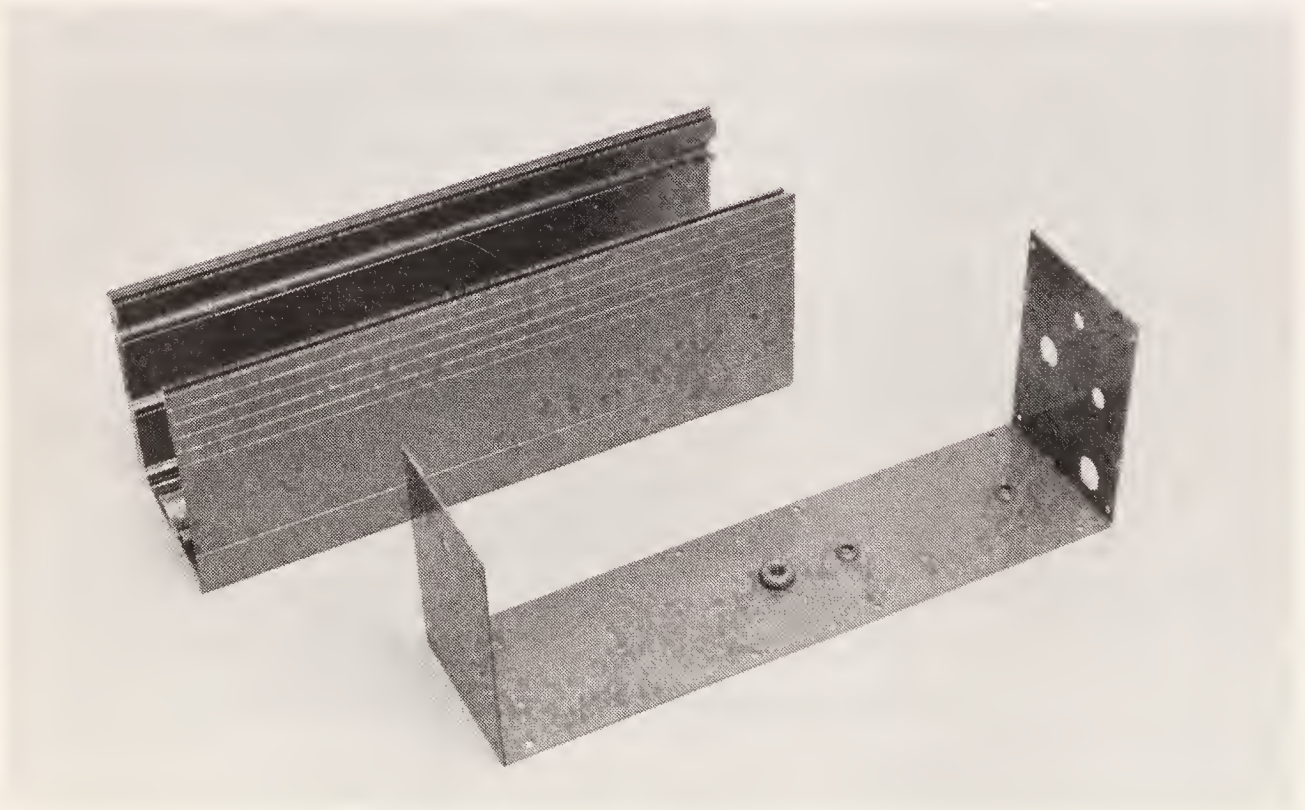

Fig. 2-2. Laser enclosure.
- The enclosure (including pilot light and power switch) (Fig. 2-2).